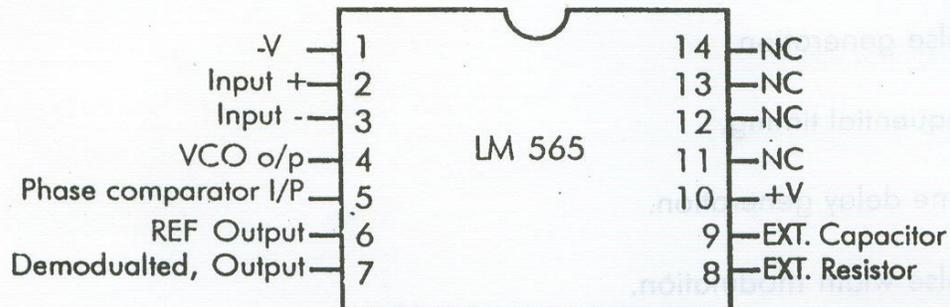

Fig.1 Pin Diagram of LM 565
1. Make connections of the PLL as shown in figure 1.